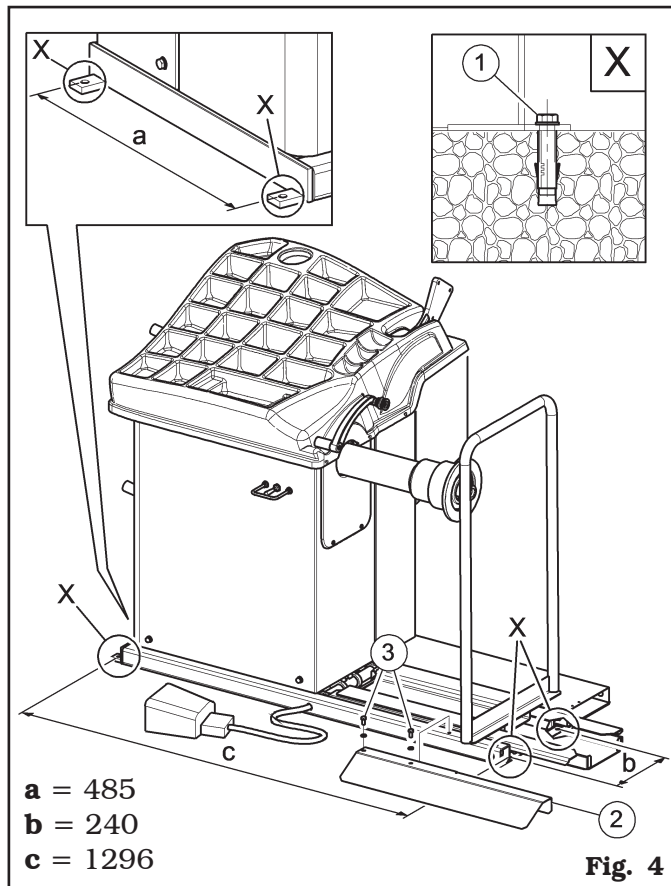

Fig. 4
The packed machine is fixed to the support pallet through the holes prearranged on the frame. Such holes can be used also to fix the machine to the ground, through floor anchor small blocks (excluded from supply). Before carrying out the definitive fixing, check that all the anchor points are laid down flat and correctly in contact with the fixing surface itself. If not so, insert shimming profiles between the machine and the fixing lower surface, as indicated in **Fig. 4**.
- Fix the foot guard protection (**Fig. 4 ref. 2**) in using the 2 issued screws (**Fig. 4 ref. 3**).
- fix the machine to the ground with 4 M8x80 mm screws (excluded from supply) (**Fig. 4 ref. 1**) (or with 4 8x80 mm stud bolts (excluded from supply)). Tighten the screws with an approximate tightening torque of 70 Nm.